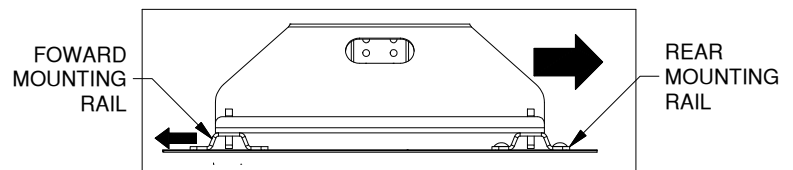

Figure C2: Side view of RV base and mounting rails.
- 2. IMPORTANT:** Before drilling forward mounting holes pull the RV base towards the rear of the truck and push the forward rail towards the cab of the truck to correctly space the mounting rails, see figure C2.